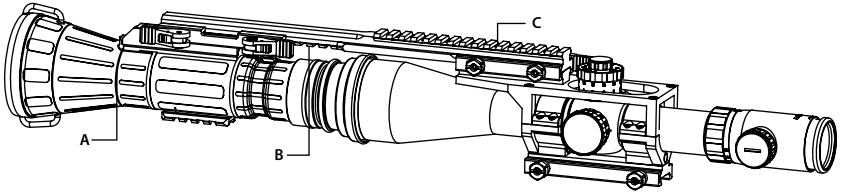

FIGURE 3-9. CO-LR AND DAY SCOPE MOUNTED ON FSRs SYSTEM
Figure 3-9 shows the CO-LR and day scope mounted to the FSRS system.
3. Install the CO-LR (A, Figure 3-9) onto the Weaver rail (B), underneath the extension mount, as shown in Part 3.1.3.
4. Affix additional equipment to the mount's top Weaver rail (C, Figure 3-9).